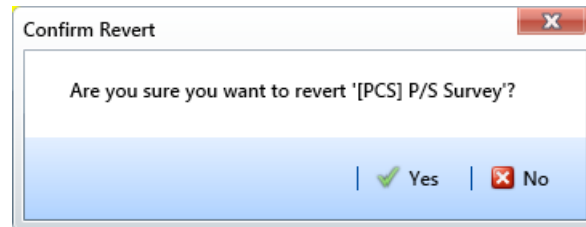

Figure 13-2. Confirm Revert
- Click  **Revert**, then click  **Yes** when the *Confirm Revert* message displays (Figure 13-2).